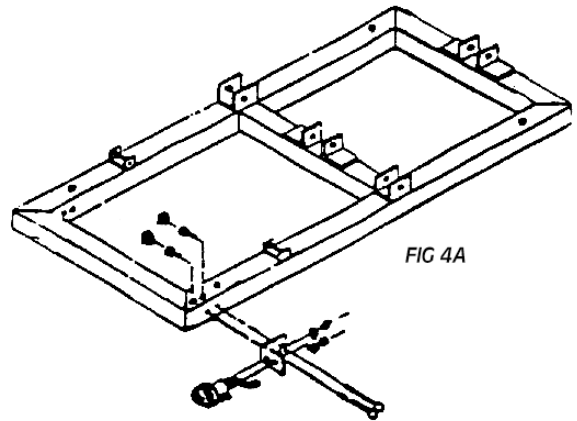

FIG 4A
8. Attach tail light brackets to trailer frame using (4) each 1/4"-20x3" bolts, As shown in Fig. 4A.
10. Attach adapter box to trailer frame using (4) each 3/8"-16x3" bolts, lock washers and nuts provided. *Note:* Fender mounting holes are closest to tail lights.
11. Attach fenders to adapter box using (4) each 3/8"-16x3/4" bolts, lock washers and nuts provided.